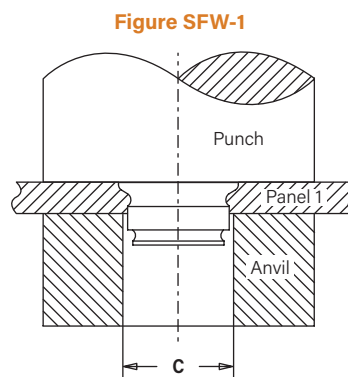

Figure SFW-1
- Step 2. Using only Panel 1, with the punch and anvil surfaces parallel, apply squeezing force until the fastener is flush with the top of Panel 1. (See figure SFW-1).